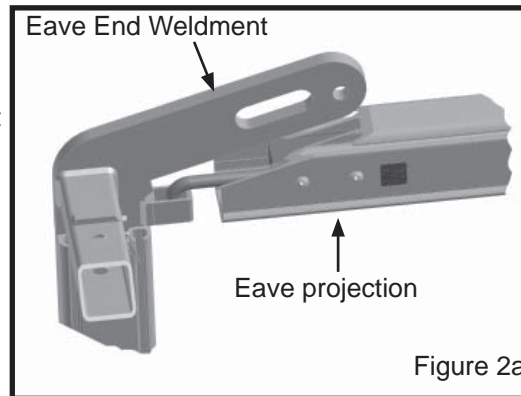

Figure 2a
- Drop hook end of Eave Projection into Eave End Weldment Bracket. (Figure 2a) Note: On 24' projection, Eave projection is spliced. Slide Eave Splice Projection into 24' Eave Projection and fasten using 1/2" bolt and nut.